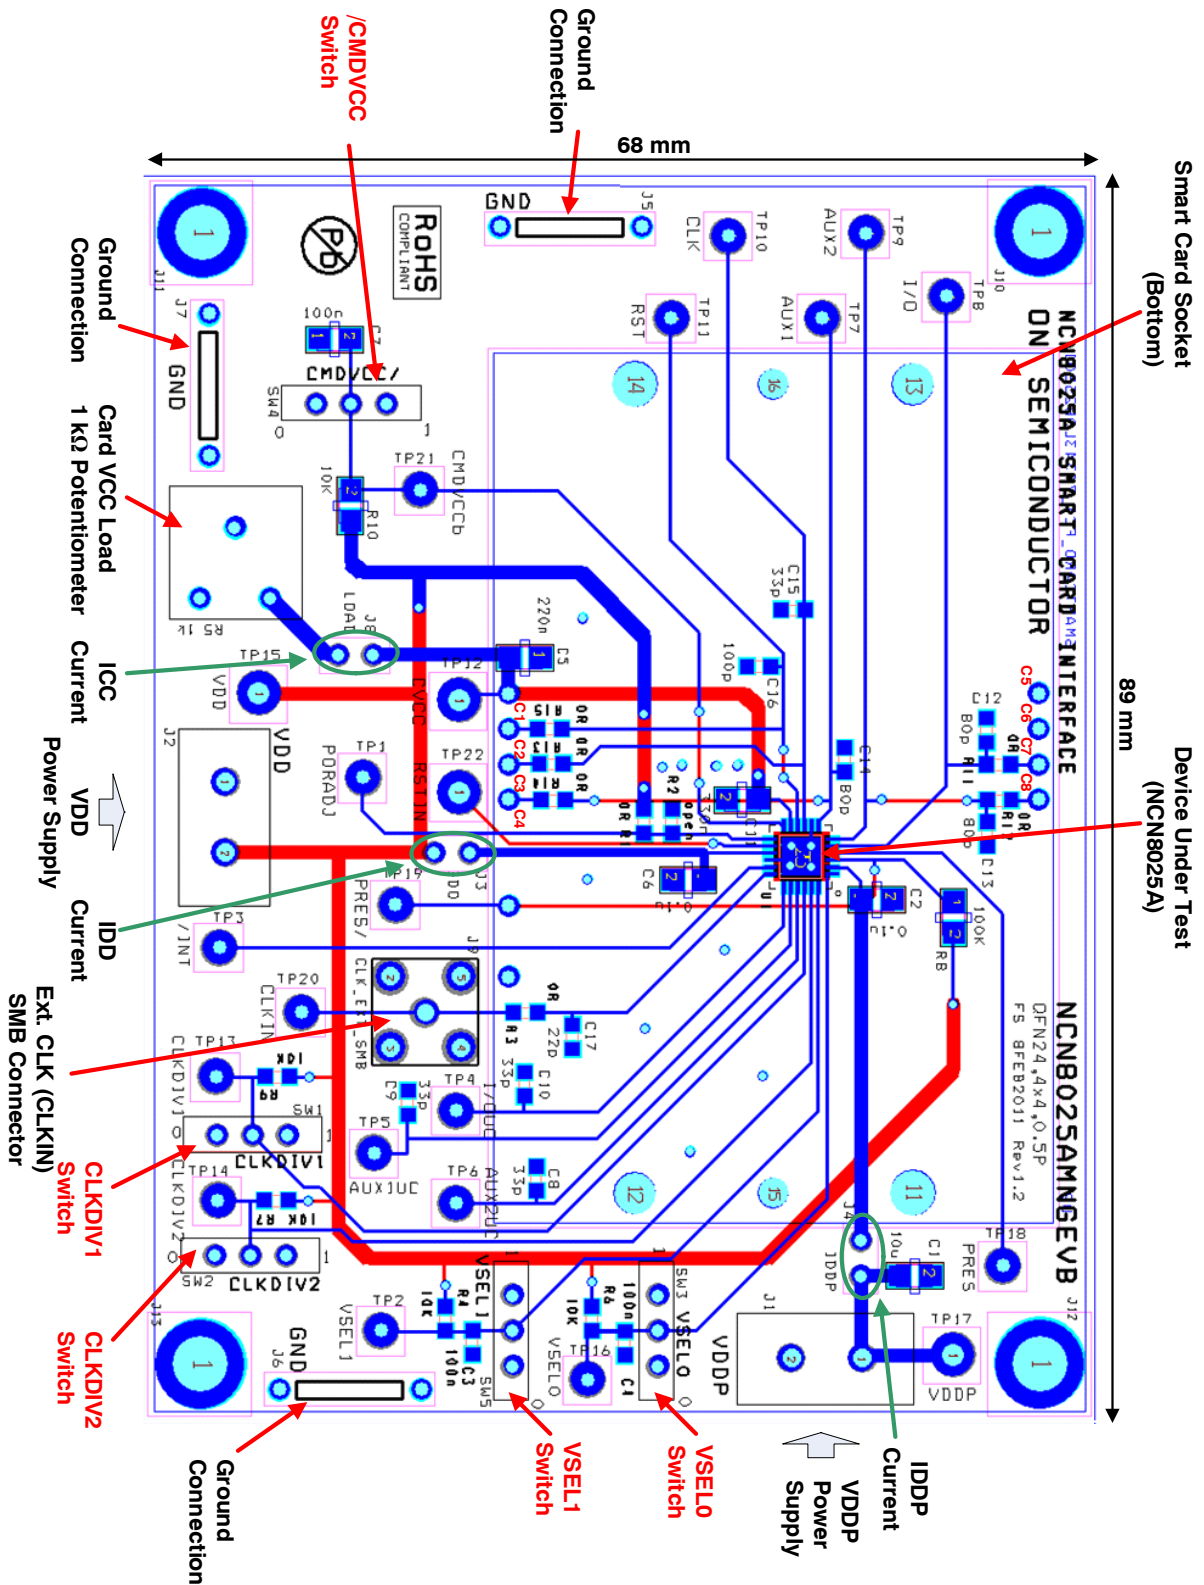

Figure 2. Board Description
See Figure 2.
- 2 pins are used to change the Card V_{CC} power supply or the smart card interface mode which can be 1.8 V, 3.0 V or 5.0 V. These 2 pins are VSEL0 and VSEL1 and on the board, changing VSEL0 and VSEL1 is done using 2 corresponding switches (see Figure 2) according to the below Table 1. When VSEL0 = 0 then VSEL1 is in the mode 5 V/3 V_{bar}, when VSEL0=1 then VSEL1 is in the mode 1.8 V / 3 V_{bar}. The initial setup can be VSEL0 = 0 and VSEL1 = 1 for selecting the 5 V mode. The card V_{CC} (CVCC) output voltage cannot be changed on the fly when the smart card interface is active (/CMDVCC = Low). For changing card V_{CC} it is necessary to deactivate the device then to reconfigure the card V_{CC} by setting the appropriate VSEL0 and VSEL1 finally the smart can be activated again with this new smart card power supply voltage.